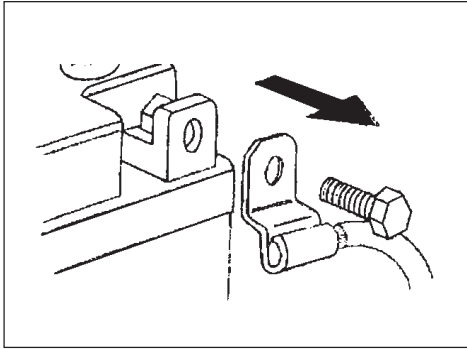

Fig.7.1 Removal of negative pole wire of battery
7.3 When repairing wire on electric parts, first remove the wire on the terminal of negative pole of battery (see fig.7.1). When tightening or loosening bolt of terminal of big capacity battery, don't let the wrench contact with engine or other metal parts of vehicle body to avoid the electric shock.